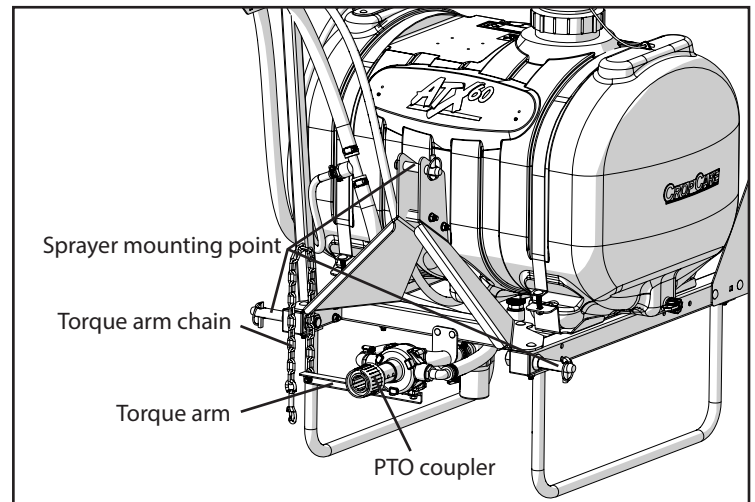

Figure 4: Sprayer and pump mounting
2. Attach the torque chain to the tractor frame with the torque arm in a horizontal position. The chain should be attached to the tractor as close to vertical as possible to avoid a bending force on the pump (Figure 4).
2. Connect the pump's PTO coupler to the PTO shaft (Figure 4, page 5).